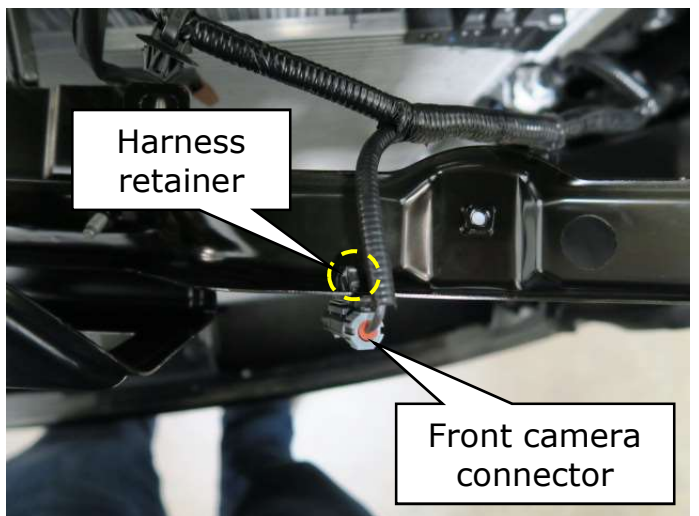

Figure 12
15. If equipped with Around View Monitor (AVM), rotate the front bumper retainer bracket over and disengage the harness connector retainer for the front camera. (Figure 12)